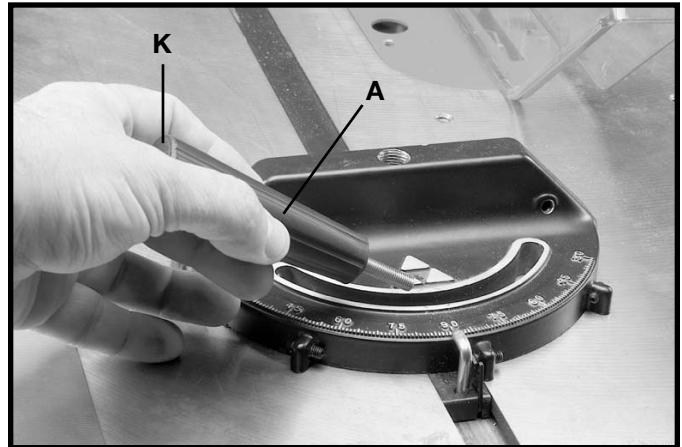

Fig. 102
1. Insert the miter gage bar into the miter gage slot and assemble the washer and lock handle (A) Fig. 102, to the miter gage bar as shown. Insert cap (K) into top of handle (A).